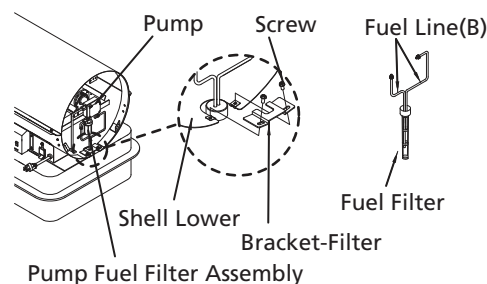

Figure 17 – Remove Tank Fuel Filter
- Disconnect fuel line (B) from pump and pump fuel filter assembly with 3/8" wrench (See Figure 17).
- Connect fuel lines (B) to pump and pump fuel filter assembly.